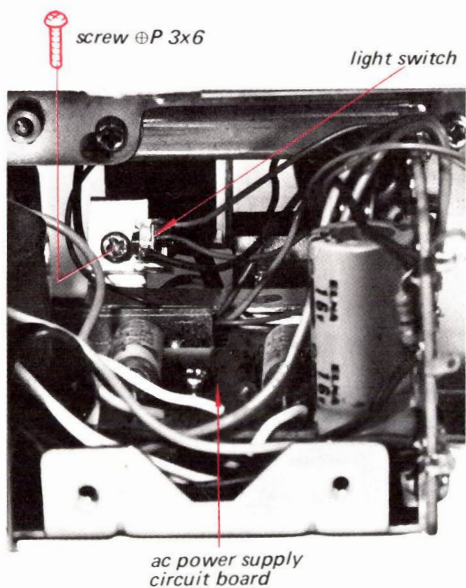

Fig. 2-18
2. Remove the screw shown in Fig. 2-18.